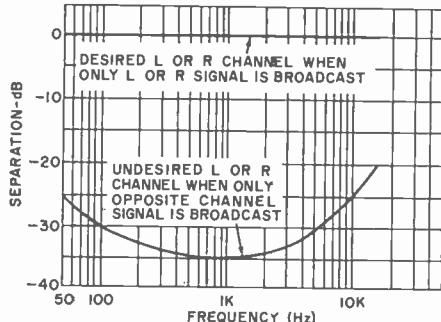

Fig. 3. Stereo FM separation often varies widely with audio frequency.
**Stereo Separation.** Most manufacturers have been quoting stereo separation figures taken at 1000 Hz since the inception of stereo FM broadcasting. Frankly, this spec is relatively unimportant unless the figure given is less than 20 dB. After all, even the best stereo phono cartridge seldom has a separation capability much beyond 25 dB, which at high frequencies tends to diminish rapidly. More important is the ability of the tuner to maintain adequate separation at the extreme high and low audio frequencies. Here, too, more quality-conscious manufacturers have begun to list separation figures for frequencies other than the nominal 1000 Hz, and some even publish a complete curve that gives a total picture of separation-versus frequency (see Fig. 3).